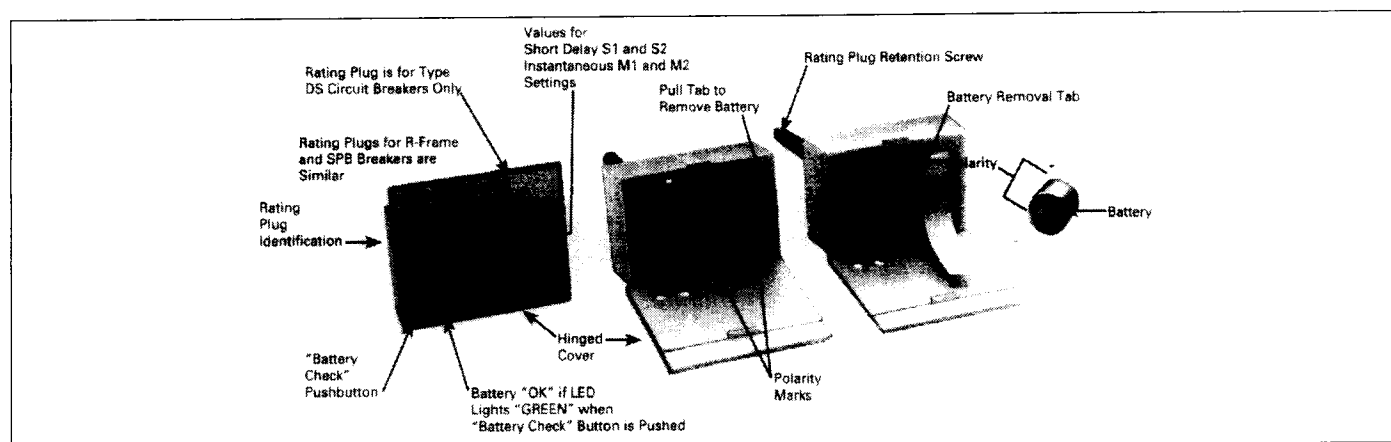
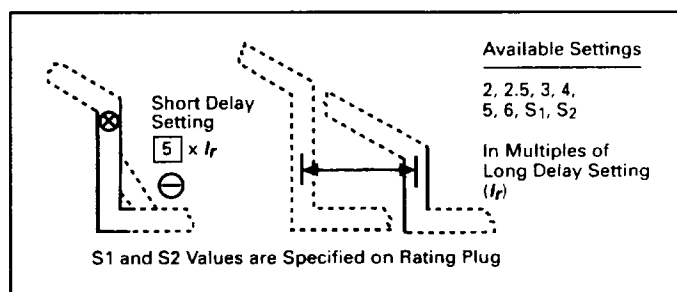

Fig. 4 Rating Plug
Fig. 8.3 Short Delay Current Settings
The **Rating Plug** (see Fig. 4) fits into a special cavity to complete the Trip Unit (see Fig. 1).
Rating plugs have two current ratings listed on their covers (See Fig. 4).
There are eight (8) available Short Delay “Pick-up” Current Settings, as illustrated in Fig. 8.3. Six settings are in the range from 2 to 6 times I_r and the other two settings are “S1” or “S2” times I_r . (REMEMBER: I_r is the Long Delay Current Setting). The values that “S1” and “S2” have depend upon the type of circuit breaker, and are specified both on the rating plug label (see Fig. 4) and on the applicable (LS) Time-Current Curve referenced in Section 6.
ues that "M1" and "M2" have depend upon the type of circuit breaker, and are specified both on the rating plug label (see Fig. 4), and on the applicable (I) Time-Current Curve referenced in Section 6.